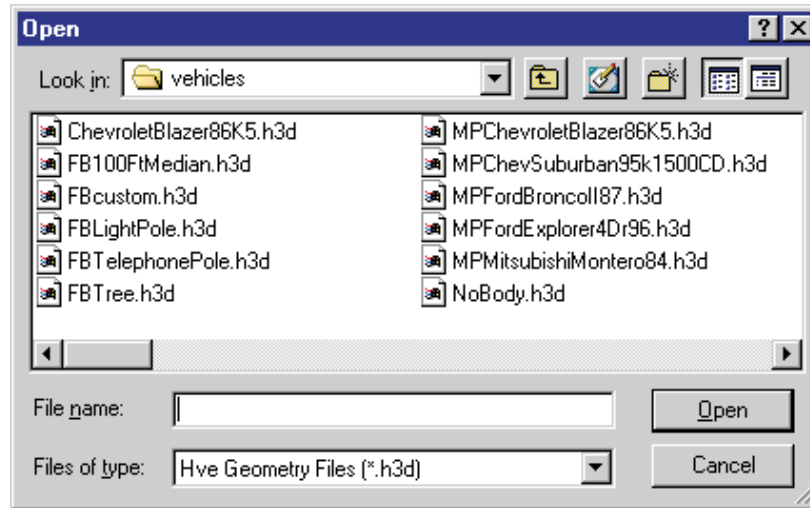

Figure 5-6 Vehicle Geometry File selection dialog, used for adding or changing the vehicle 3-D geometry file for the current vehicle.
- Click on the CG, choose *Geometry File* and select *Open*. The Geometry dialog is displayed (see Figure 5-6), and we're ready to select a geometry file from the list box.
- Click on the CG, choose *Geometry File* and select *Open*. The Geometry dialog is displayed (same as shown earlier in Figure 5-6), and we're ready to select a geometry file from the list box.